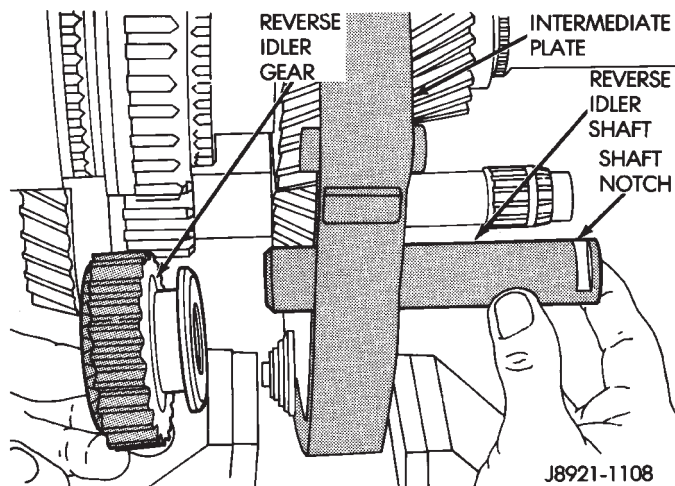
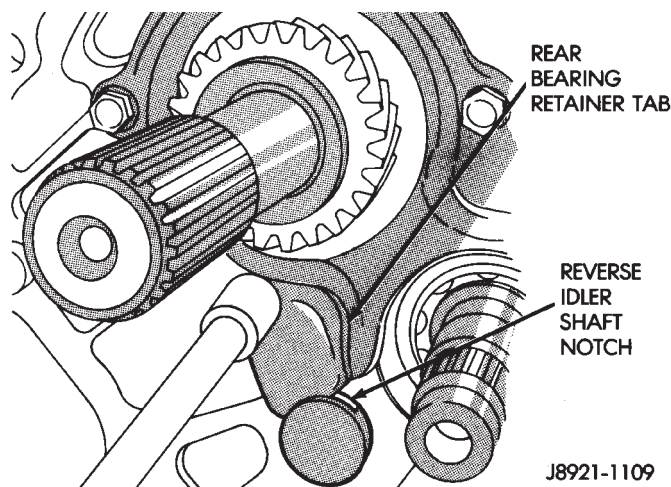
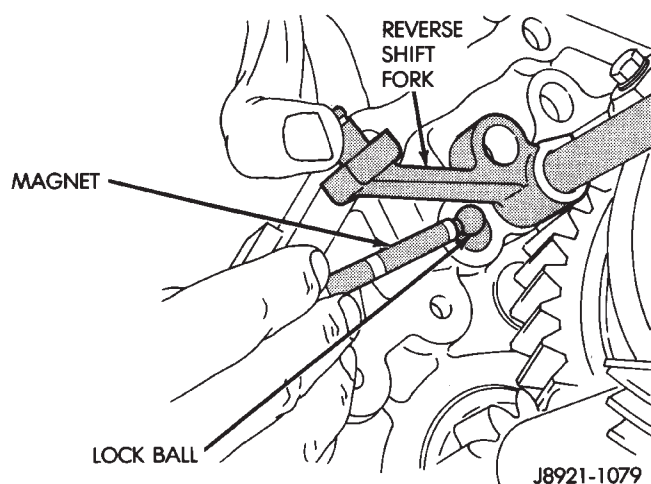

Fig. 92 Install Reverse Idler Gear And Shaft
Fig. 93 Install Output Shaft Rear Bearing Retainer
Fig. 94 Install Fifth Gear Shift Rail Lock Ball
(21) Install the fifth gear shift rail lock ball in the intermediate plate (Fig. 94).
(22) Install the fifth gear shift rail into the intermediate plate.
(23) Install reverse idler gear and idler gear shaft (Fig. 92). Verify that the notch in the idler shaft is to the rear of the transmission.
(24) Position output shaft rear bearing retainer on intermediate plate and into reverse idler shaft notch.
(25) Install new bolts to hold retainer to intermediate plate (Fig. 93).